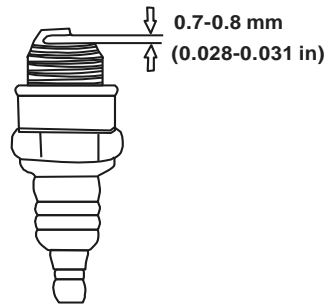

Figure 26- Measuring the spark plug gap
4. Measure the plug gap with a gauge (see figure 26). The gap should be 0.7-0.8mm (0.028-0.031in).